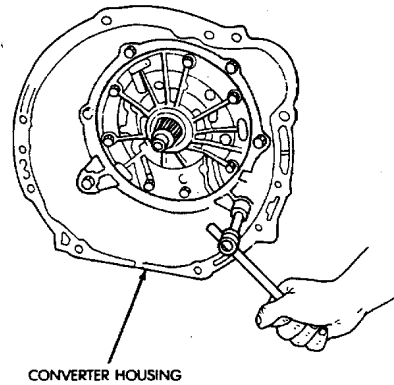

Fig. 3 Removing/Installing Converter Housing
- (7) Remove converter housing bolts and remove housing (Fig. 3) from case.
- (8) Remove extension housing or adapter housing.
- (9) On 2WD models, measure inside diameter of extension housing bushing with cylinder bore gauge or inside micrometer. Diameter should be 38.09 mm.